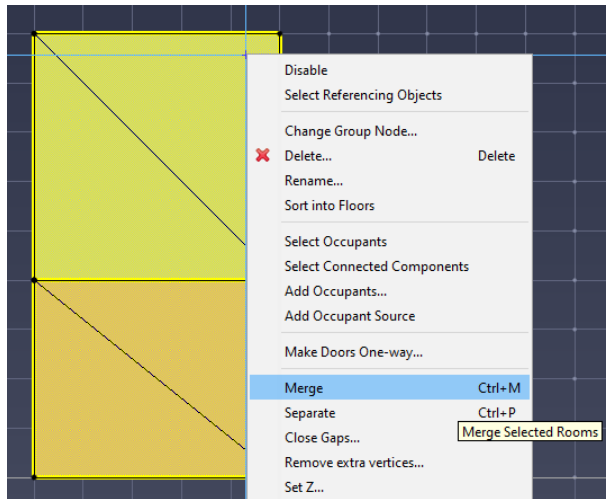

Figure 28. Two rooms to Merge
2. Select **Merge** from the right-click menu, or select **Merge Rooms** from **Model** menu (Figure 28)